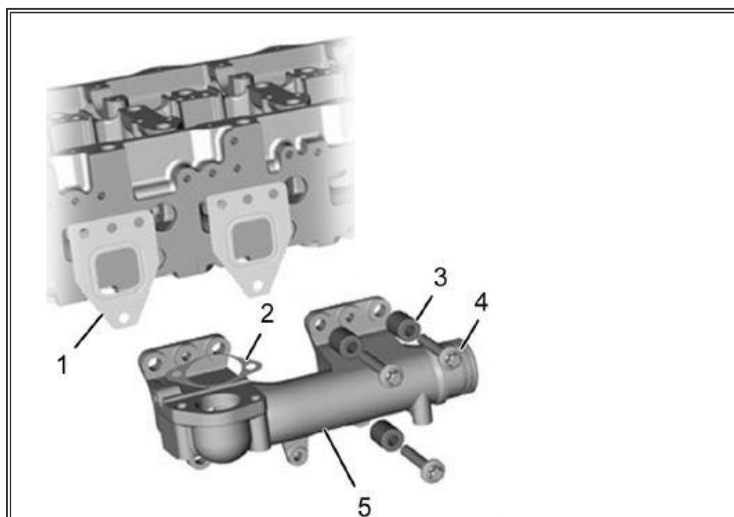

Figure 8: Rear Exhaust Manifold
18. Position two new exhaust manifold gaskets (Figure 8, Item 1) and install rear exhaust manifold (Figure 8, Item 5) assembly.
19. Install six new Hex bolts and six new sleeve spacers included in kit 2512878C91 (Figure 8, Items 4 and 3)